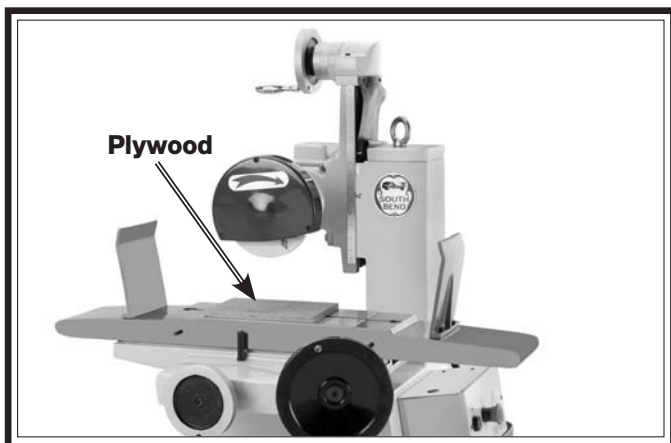

Figure 12. Protecting table.
2. Place a sheet of plywood on top of the table to protect the table (**Figure 12**), and open the grinding wheel cover.